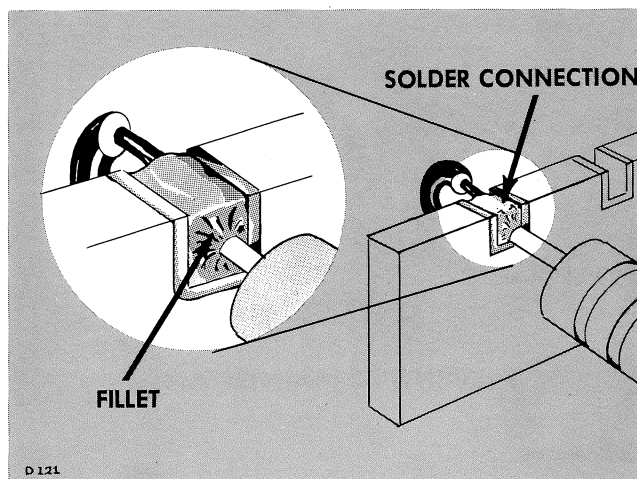

Fig. 6-3. A slight fillet of solder is formed around the wire when heat is applied correctly.
6. Do not attempt to fill the notch on the strip with solder; instead, apply only enough solder to cover the wires adequately, and to form a slight fillet on the wire as shown in Fig. 6-3.